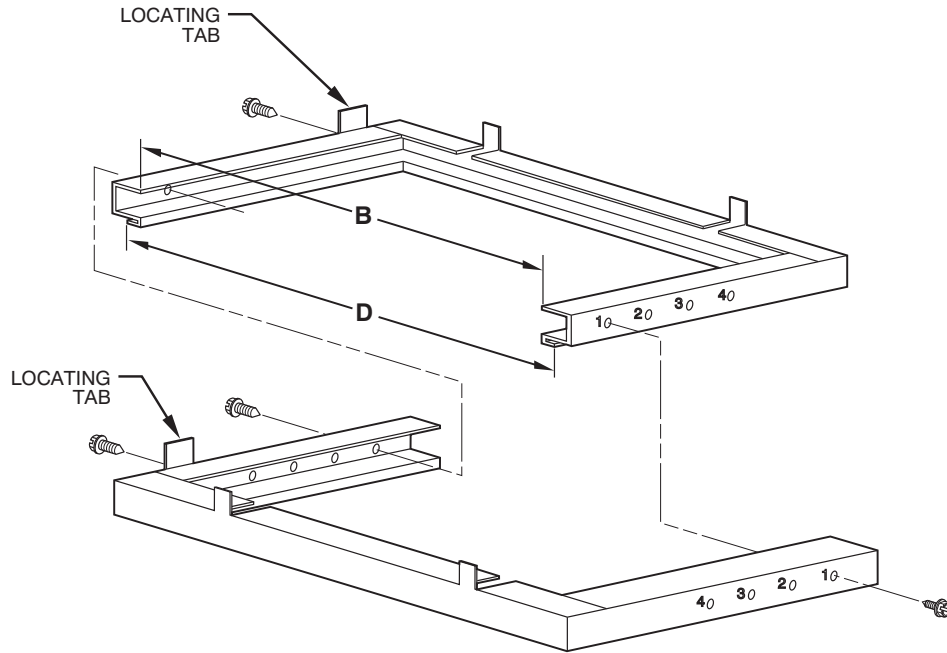

Fig. 2 - Disassembled Floor Subbase
- a. Arrange base parts as shown in Fig. 2.
NOTE: Each successive hole in the adjustable rail must be matched with the same numbered hole of the opposite rail, first hole to first hole, second hole to second hole, etc. (See Table 2 and Fig. 2.)
c. Fasten rails together with screws provided in kit. (See Fig. 2.)
4. Install subbase over hole cut in floor. Locating tabs on subbase **MUST** be at sides and back of furnace when installed. (See Fig. 2.)